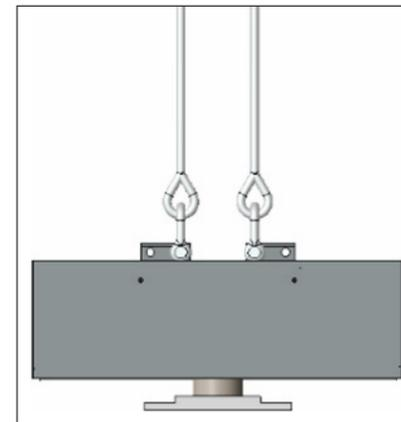

**Figure 2:** Assembled Rigging (Spreader Beam)
3. Raise the entire assembly to a comfortable working height so the display sections can be positioned under the attachment points. Refer to **Figure 2** for assembled details.